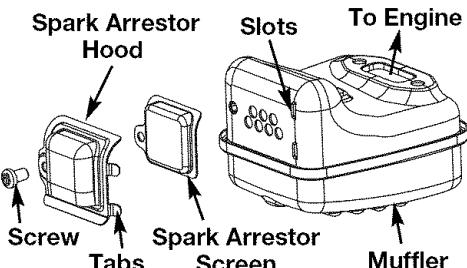

Fig. 19
2. Locate the muffler, **but do not remove it**. Find the screw on the bottom of the muffler (Fig. 19). This screw holds the Spark Arrestor Hood Assembly and the spark arrestor screen to the bottom of the muffler. Remove this screw using either a Torx T20 or flat blade screwdriver.
6. Place the spark arrestor plate on top of the spark arrestor screen with the raised side up and the opening facing toward the engine (Fig. 19)
plate with the "raised" side up and the opening facing AWAY from the engine (Fig. 19). Verify that the exhaust will be directed AWAY from the engine.